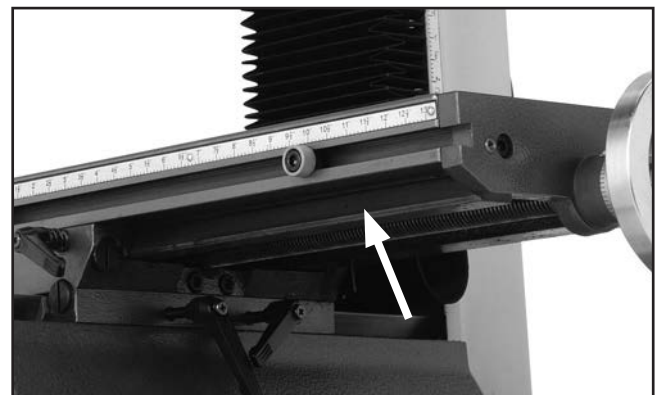

Figure 49. Longitudinal leadscrew location.
9. From beneath the table, use mineral spirits and a brush to clean as much of the existing grease and debris as possible off of the longitudinal travel leadscrew shown in **Figure 49**. Allow the leadscrew to dry.